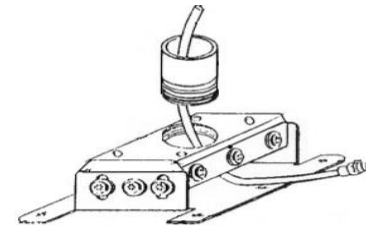

Figure 8. Cable Routing Example
4. Route cables as necessary (see Figure 8).